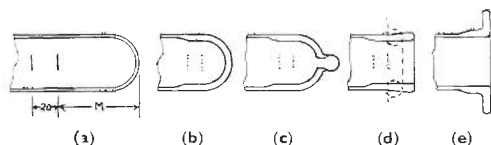

Fig 4
Most glass blowers are familiar with the sand blasted reagent bottle seen in laboratories. How many appreciate that here lies a very practical method for making holes in glass or ceramic materials. The illustration (Fig. 4) is of a small scale abrasive machine (Ref. 4), by means of which the gas blasting technique can be carried out. The control unit houses a twin vibrator which supplies an abrasive compound to the pen type guns shown, the motive force in this instance being nitrogen from a commercial cylinder at 80 PSI. Compressed air can of course be used, provided house service is available at this pressure and in a clean dry state. The principle abrasive used is Aluminium Oxide in three grit sizes 27 micron, 50 micron and 100 micron. The abrasive material is forced at high velocity through a Tungsten jet mounted in the pen, the resultant effect is the rapid removal of stock by erosion. Fine cuts '008" wide can be made quite easily. The hole is of a very precise nature with no burns or chipping. What is most important is that extremely thin sections can be worked by this cool and shockless method, even though the nozzle velocity may be in excess of 1,100 feet per second. This method has been used for making valve holes in precision bore glass tubing, where
- (2) Hand forming. Refer to Fig. 4
In preparing the selected tube for making a flange, it is necessary to have the remote end closed by any suitable method. The end to be worked is best cut in the lathe by diamond scratch, small hot flame, and the application of wetted cotton wool; if it has been ground, it should be finished with the finest grit and carefully cleaned to avoid milk stain. The two marks are made at the length M and plus 20 to 30mm. It is then mounted in the lathe and worked up to the stage *d*, Fig. 4. Large brush fires are preferred, two opposed if the tubing is over 40mm; if only multi-jet chisel burners are available, they should be turned through an angle, to give a wide heating band.